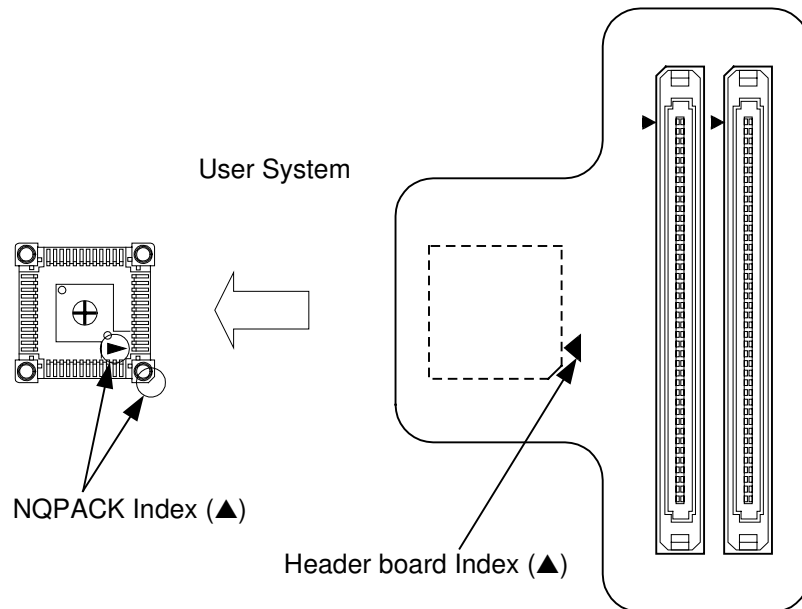

Figure 3 Index Position
1. To connect the header board to the user system, match the index mark (▲) on the NQPACK mounted on the user system with the index mark (▲) on the header board and then insert it (See Figure 3) . The pin of YQPACK is thin and easy to bent. Insert NQPACK after confirm that the pin of YQPACK is not bent.